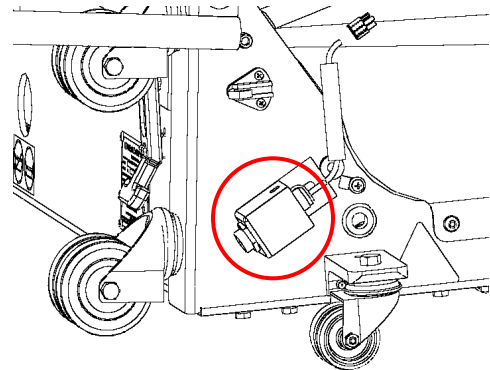

Figure 4-31
2. Locate the sensor and bracket over the right rear caster wheel, as shown in Figure 4-31.